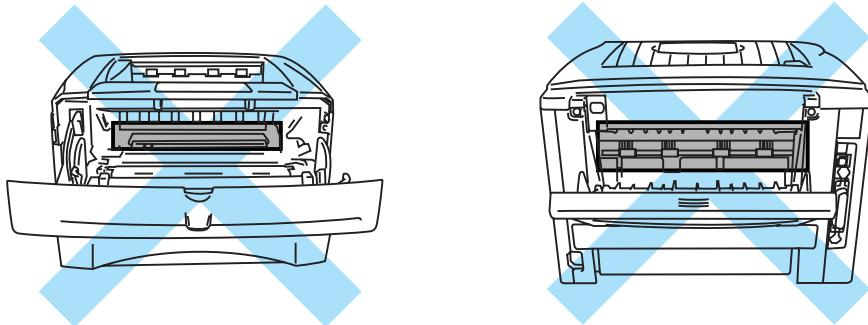

Figure 6-2
**⚠** After you have just used the printer, some parts inside the printer are extremely hot. When you open the front cover or face-up output tray of the printer, never touch the shaded parts shown in Figure 6-2.